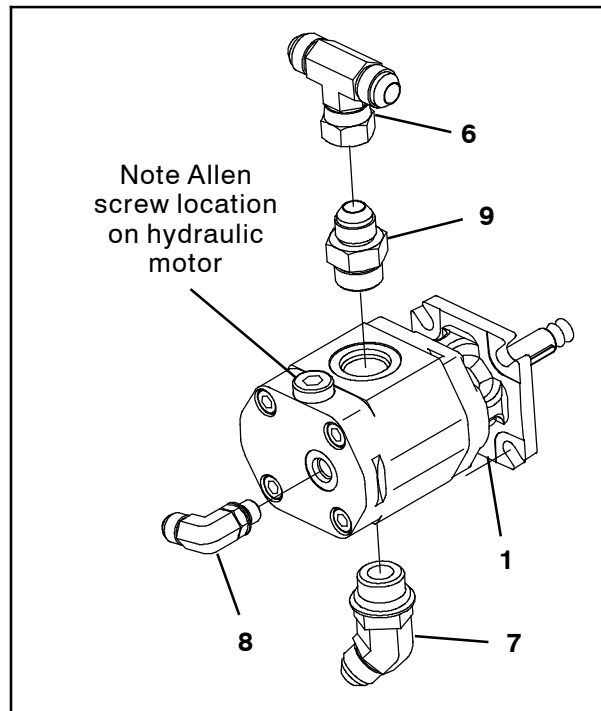

FIG. 12
11. Remove the plugs from the new hydraulic motor (1).
12. Install the straight fitting (9) into the hydraulic motor (1). (Fig. 12)
13. Install the t-fitting (6) into the straight fitting (9) installed into hydraulic motor (1) in the previous step. Do not completely tighten t-fitting. The t-fitting is tightened during later adjustment. Note location of Allen screw on the scrubbing fan hydraulic motor. (Fig. 12)
14. Install the 90° fitting (8) onto the scrubbing fan hydraulic motor (1). (Fig. 12)
15. Install the 45° fitting (7) onto the scrubbing fan hydraulic motor (1). (Fig. 12)